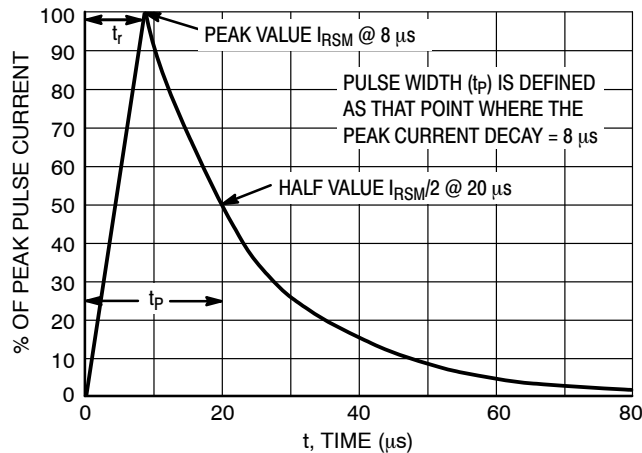

Figure 5. 8 x 20 μ s Pulse Waveform
- V_C measured using pulse waveform in Figure 5.